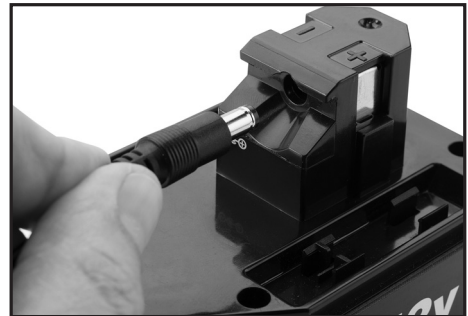

FIG.3
2. Plug the 3 pin plug into a 230V mains socket then connect the charger port to the battery (fig. 3). The LED on the plug will illuminate red.